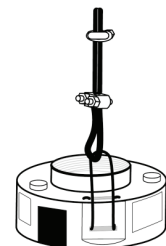

Figure 6
3. Safety cable and hardware for lowering and lifting the pump (See Figure 6).
When connecting piping to the pump, a back-up wrench should be used. After the first section of pipe has been attached to the pump, the safety cable should be connected to the pump (as shown in figure 6). Do not clamp to the pump. When raising the pump, be careful not to place bending stress on the pump by picking it up by the pump end only. It is recommended that a safety cable be attached to the pump (using special brackets and cables, sold separately) anytime plastic pipe or flexible tubing is used. A check valve may also be added to Redi-Flo2® pumps to prevent fluid from flowing back into the pump after it is turned off (backflow prevention). A check valve is standard on Redi-Flo4™ pumps. Always check to ensure joints are fastened securely. The use of a torque arrestor is not required when using the Redi-Flo VFD.